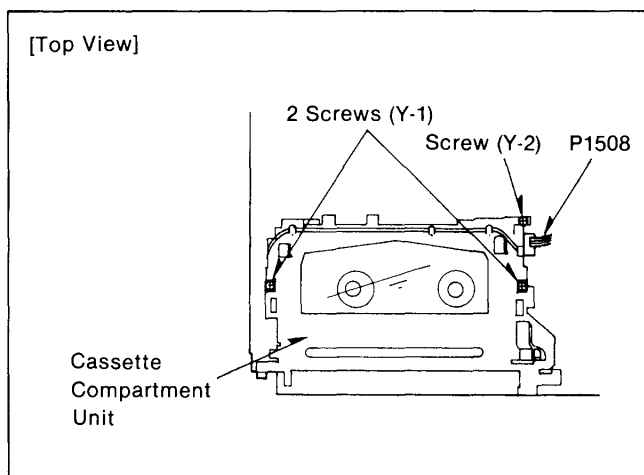

Figure D25
1. Unscrew the 2 screws (Y-1) and a screw (Y-2) (Figure D25).
2. Disconnect 2 wires and 4 wires from P1508 on the right side of the Cassette Compartment Unit (Figure D25).